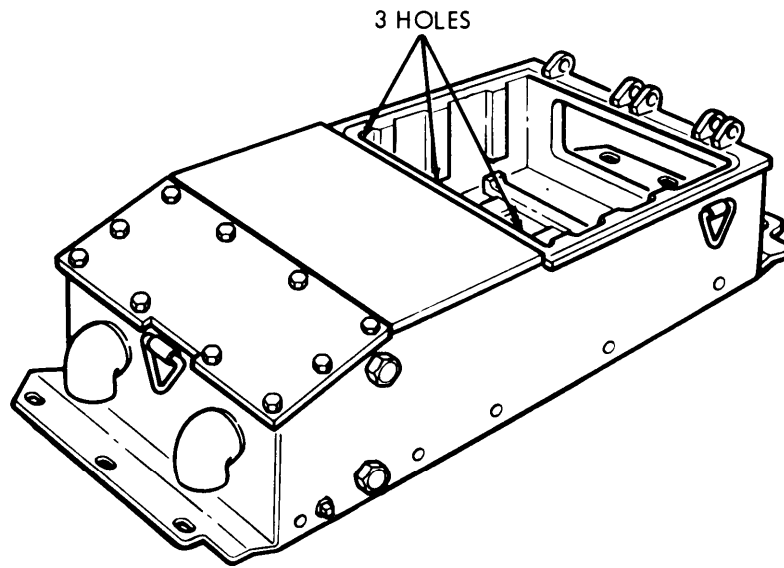

Figure 4-1. Air cleaner access door bolt holes.
The three (3) screw holes located on top of the top loading air cleaners (Fig. 4-1) which secure the access door are required to be drilled completely through. If they are not, dirt settles in the screw holes and the screws bottom out before tight, resulting in not obtaining a good seal between the access door and the air cleaner. Secondly, damage to both the screw and screw hole can occur.
Check access door bolts and bolt threads (Fig. 4-1). Ensure bolt threads and threads in holes are not stripped. If stripped, replace bolts and/or re-tap bolt holes. Clean bolt holes by removing all accumulated sand, dirt, or debris. Check all three threaded bolt holes to ensure the holes have not been drilled through. If the bolt holes have been drilled through, disregard this rework procedure. If they have not been drilled through, proceed with the rework procedure.